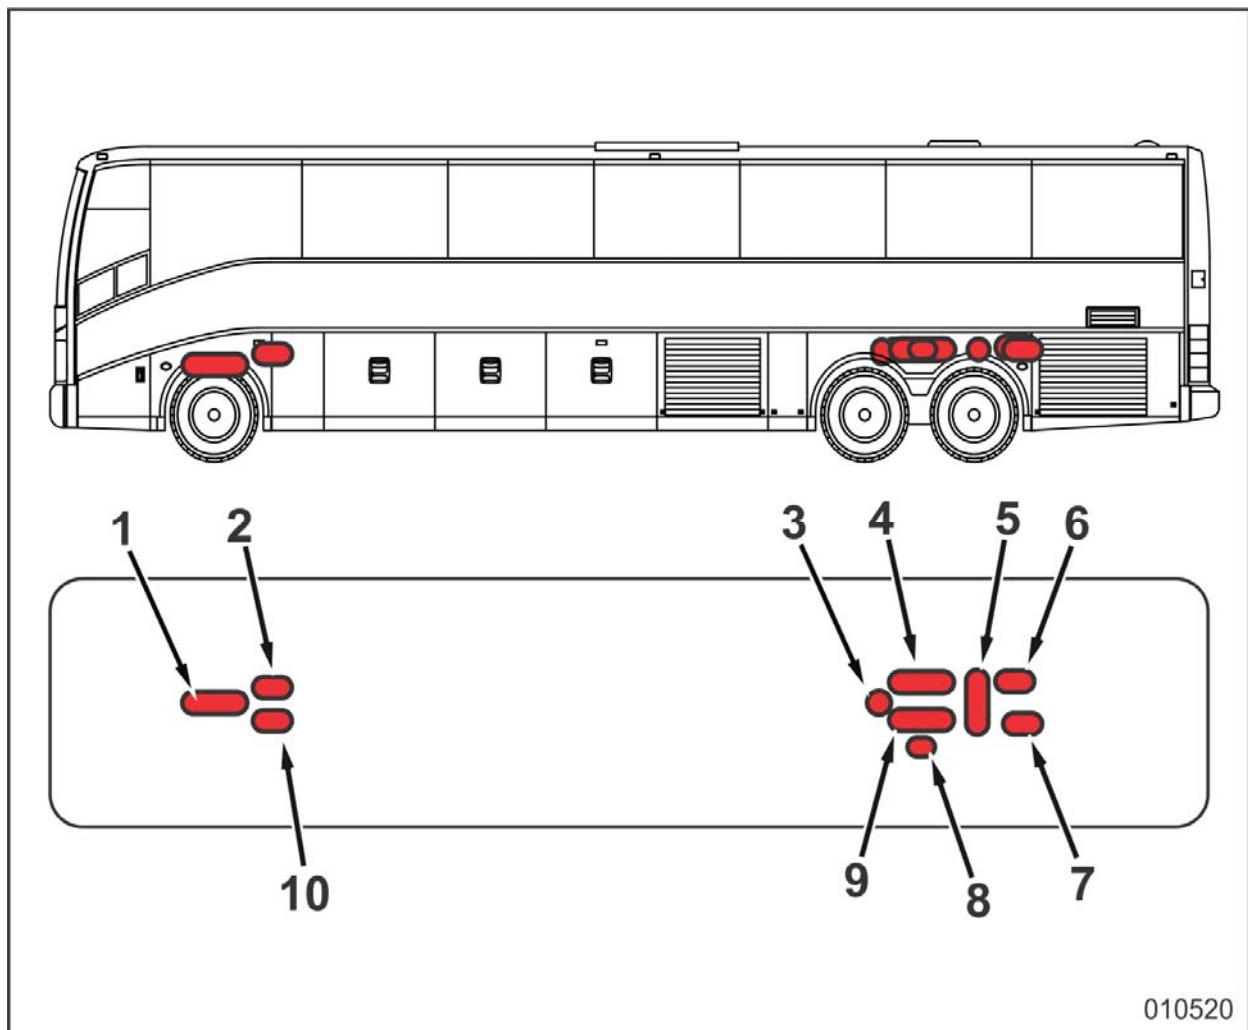

Figure 9: Location of compressed-air tank on CX45
3.2	<p data-bbox="379 416 466 501"></p> <p data-bbox="491 416 715 452">WARNING!</p> <p data-bbox="491 483 1378 519">Use appropriate hearing protection while draining the air tanks.</p> <p data-bbox="357 551 1394 618">Completely drain the entire air system by using the drain cocks on the air tanks. Refer to figure 9 at the end of this service bulletin for air tanks location.</p> <div data-bbox="600 636 1131 1021" style="text-align: center;"> <p data-bbox="1059 994 1123 1016">001826</p> </div> <p data-bbox="619 1030 1104 1088">Figure 5: Compressed-air tank drain cock, previous model</p> <p data-bbox="619 1111 721 1160">1. Closed 2. Open</p>